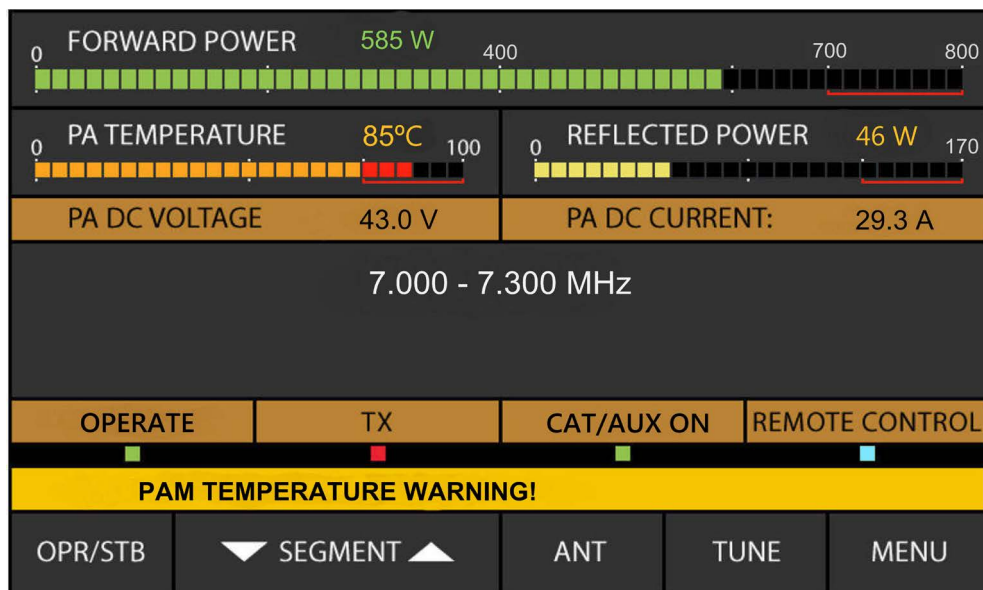
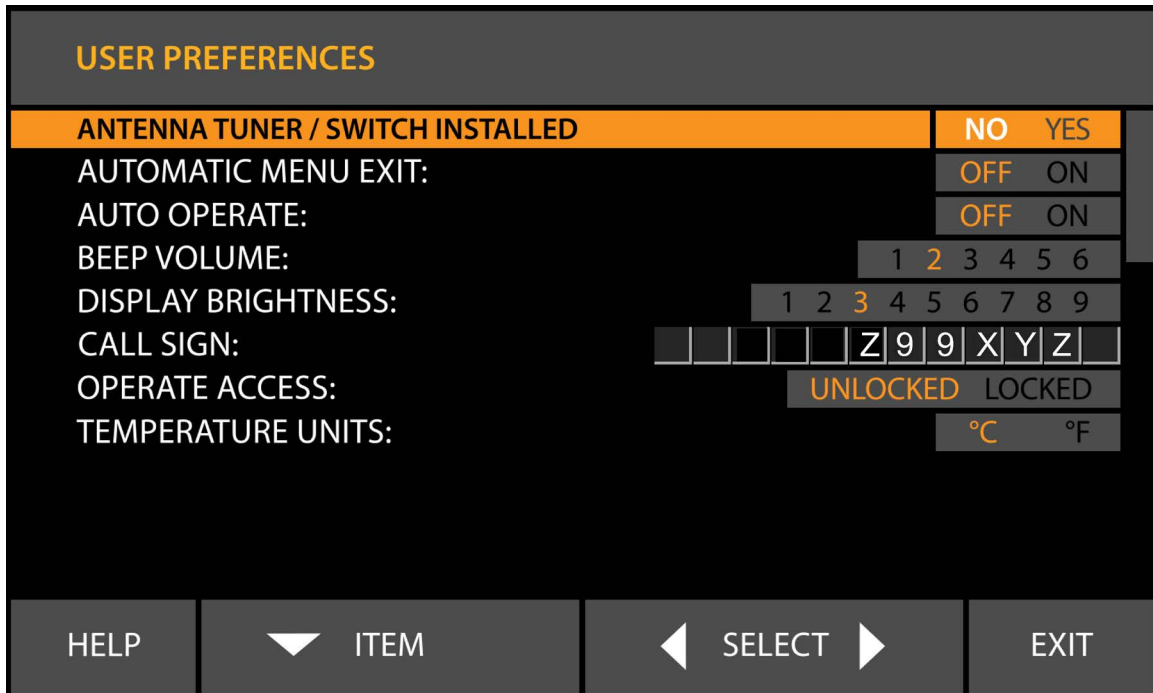

Fig. 4-1 – Appearance of an alarm message
Fig. 5-4 – Menu USER PREFERENCES
- c) **AUTO OPERATE** option can be turned on/off by the operator in the USER PREFERENCES menu – S. 5-4 and Fig. 5-4 - or by a remote control command.
In the event a parameter maximum is exceeded, the amplifier will assess the risk and will trigger one of the three levels of protection, as described in items (a) to (c) below. Every event is accompanied by a warning text on the screen (Fig. 4-1). A sound alarm will be also produced, if set on in the “USER PREFERENCES”– fig. 5-4.
- The first protection level is WARNING. When a value watched by the control unit approaches the protection threshold, the transmission is not interrupted, but a message appears – for example “Drive Power too High”, “Drain Current too High”, or another – Fig. 4-1.